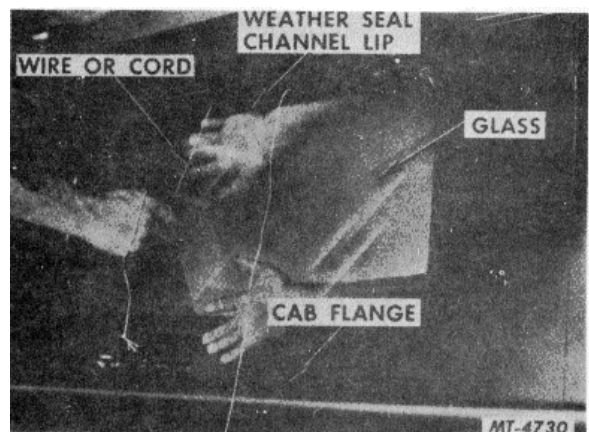

Fig. 33
4. With one man working outside the cab and the other serving to press the glass outward and to steady the glass from the inside, grasp the end of the cord (either end of the cord) as shown in Fig. 33.